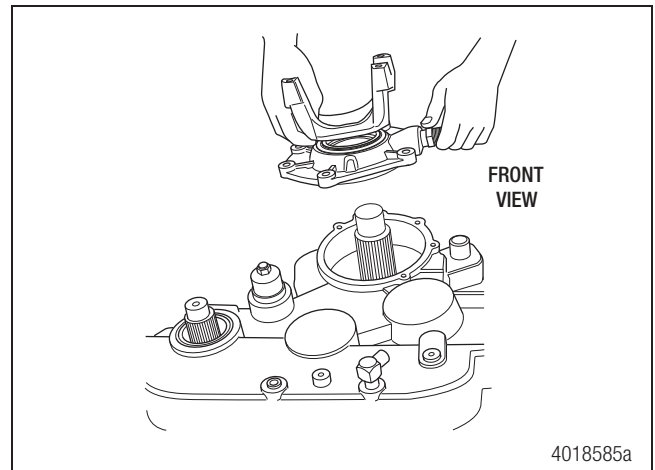

Figure 5.17
- With the front input yoke still installed, remove the yoke nut, yoke, and front input bearing cage from the assembly. Figure 5.17.